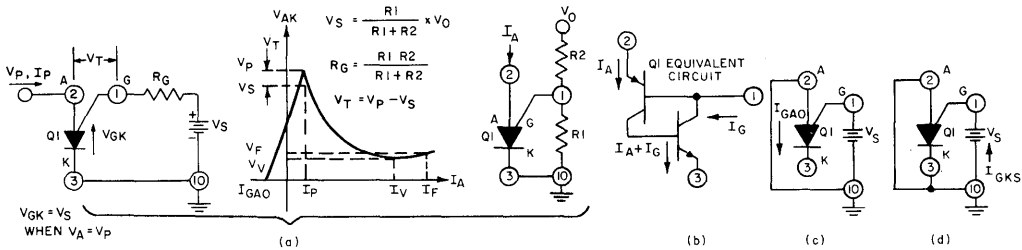

Fig. 22 - General anode characteristics for Q1 (PUT).
* V_T = V_P - V_S (Fig. 22)
The programmable unijunction transistor is essentially an anode-gate SCR. The volt-ampere characteristic of the device is shown in Fig. 22. When an equivalent Thevenin source (V_S , R_G), as shown in Fig. 22, is applied to the gate terminal the device will be "off" if the anode-voltage is negative with respect to the gate voltage. Under this condition, any current flow is exclusively leakage current. When the anode voltage be-